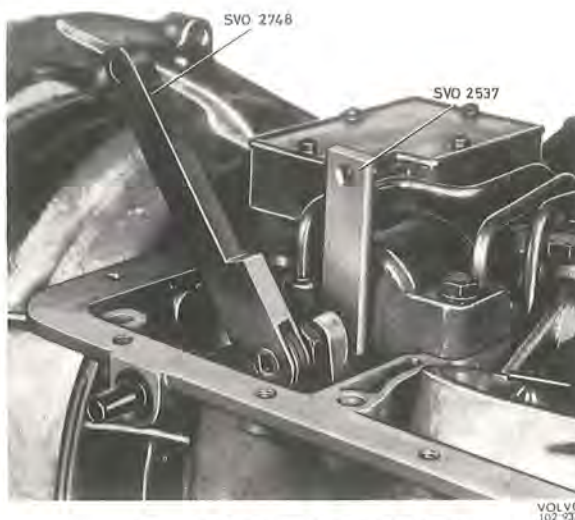

Fig. 4-73 Adjusting front brake band
1. Jack up and place blocks under the car. Drain out the fluid into an absolutely clean container. Remove the oil pan. Slacken the locknut for the adjusting screw of the front brake band. Place the spacer block SVO 2537 between the adjusting screw and the servo piston pin, see Fig. 4-73. Tighten the servo adjusting screw with a torque wrench SVO 2748 until the screw locks. This corresponds to a torque of 10 lb.in. (11.5 kg/cm).